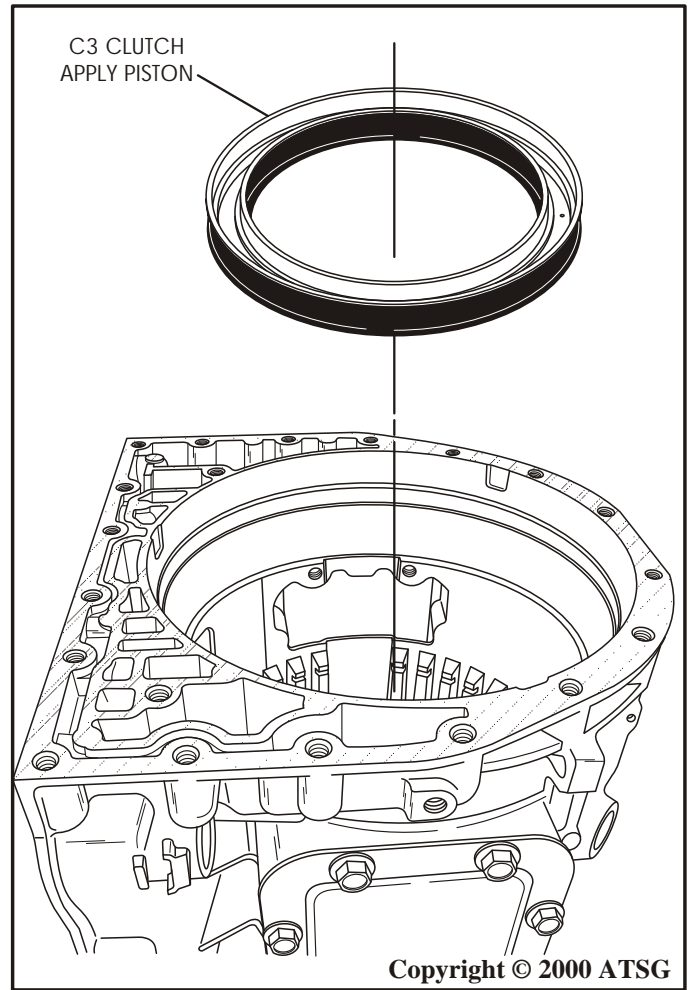

Figure 73
60. Remove the C3 clutch apply piston from case by blowing compressed air into the C3 clutch passage, as shown in Figure 73.